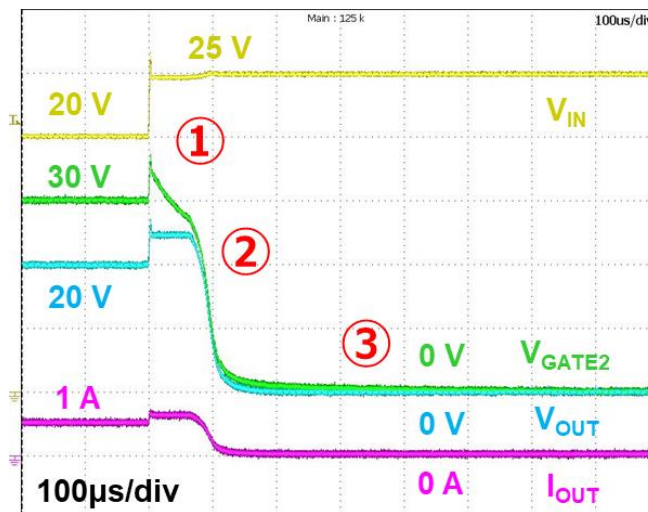

Fig 7.6 Over voltage lockout operation (TCK421G, VGATE2)
Fig 7.6 is the over voltage lockout operation of VGATE2 terminal. Increasing V_{IN} will also raise V_{GATE2} and V_{OUT} (①). When V_{IN} exceeds V_{IN_OVLO} of TCK421G, the over voltage lockout function is activated and shuts down V_{GATE2} and V_{OUT} (②). When $V_{GATE2}-V_{OUT}$ falls the gate threshold voltage V_{th} of the external MOSFET, V_{OUT} and I_{OUT} are turned off completely (③).